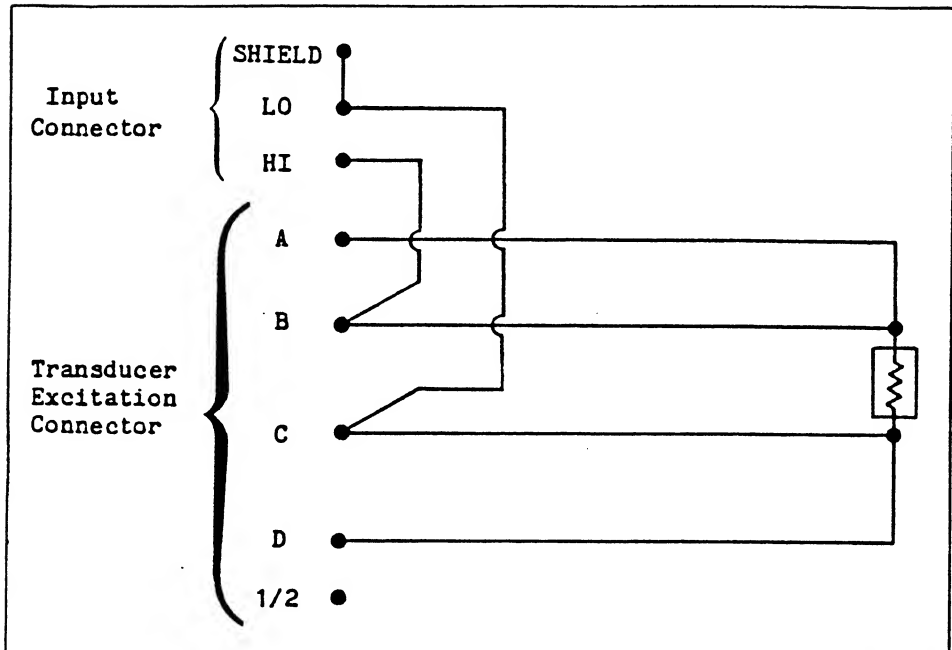

Figure 174-7. Wiring (4-Wire RTD, Constant Current)
- o RTD measurements using a 4-wire arrangement must use the wiring shown in Figure 174-7.